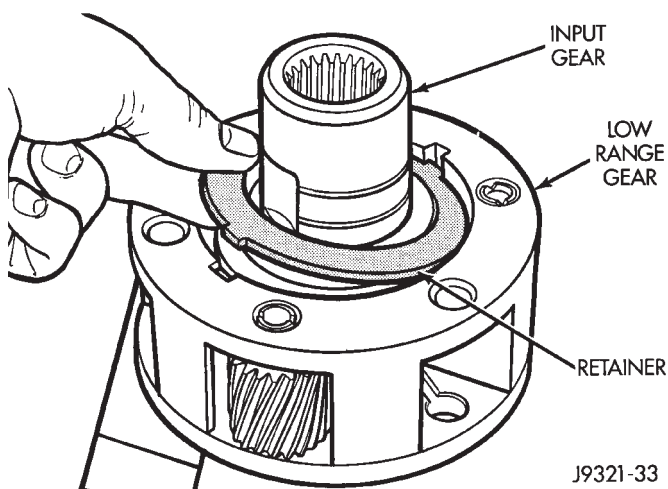

Fig. 33 Removing Input Gear Retainer
(2) Remove retainer (Fig. 33).